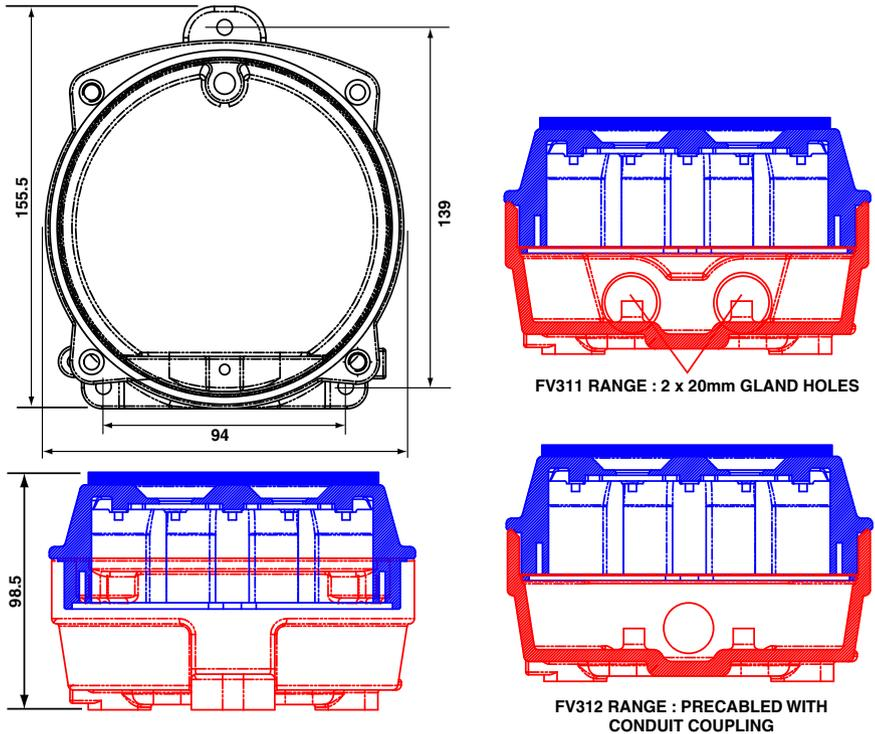

Fig. 11 FV300 Series - Overall Dimensions
4.2.1 DIMENSIONS (SEE FIGURES 11 AND 12)